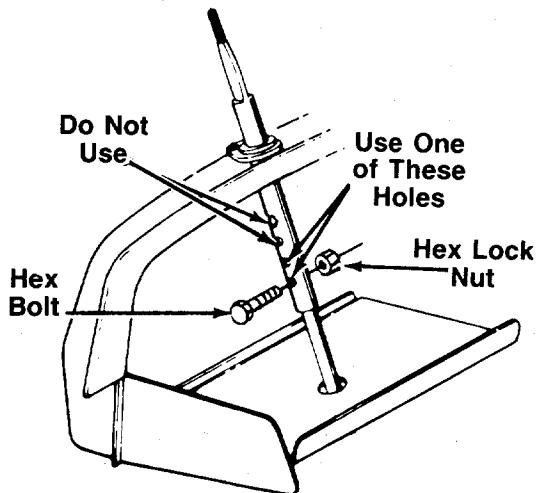

FIGURE 3.
1. For shipping purposes, the upper steering shaft is pushed all the way down over the lower steering shaft. Pull the upper steering shaft up. The holes in the shaft provide steering wheel height adjustment. When securing the two halves of the steering shaft, select one of the two lower holes in the upper shaft as shown. **Do not** use the two upper holes. Secure with hex bolt and hex lock nut. See figure 3.